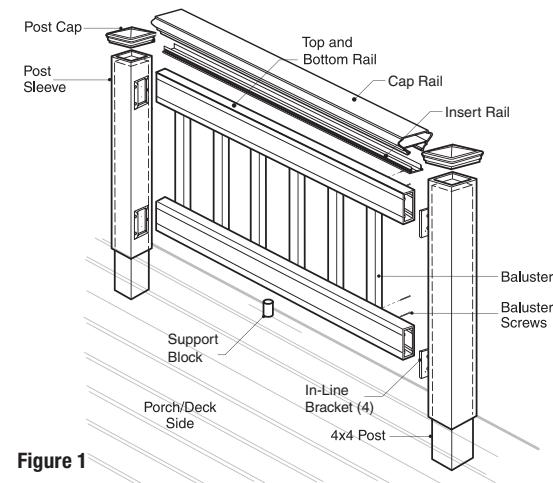
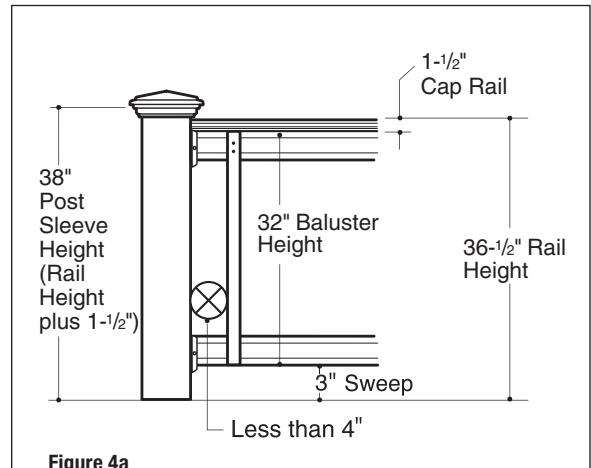

Figure 1
Figure 4a
**Step 5** Trim 4x4 post sleeves to length. Post sleeves should be a minimum of 1-1/2" longer than the overall railing height (**Figure 4a and 4b**). Allow an additional 1-1/2" in your calculation if installing the optional cap rail. Example: For a 36" high railing, trim post sleeve to a minimum of 37-1/2" (39" with cap rail). Post sleeve can be left longer if desired.
**Step 6** Measure the distance between installed post sleeves to determine the length of the top and bottom rails (**Figure 1**). The distance between the post and first baluster should be less than 4" and equal on both ends (**Figure 4a and 4b**). Remove an additional 1/4" on both ends (1/2" overall) for the bracket to fit between the rail and post. Trim the top and bottom rails to length.
**Step 8** Position the bottom rail between posts and center. **Check building code requirements for maximum spacing between deck surface and bottom of rail (sweep).** Spacing of 3" is recommended, but can be more or less if codes allow (**Figure 4a and 4b**). Mark the location of the bracket on both posts. Remove rail. Mark the screw locations and pre-drill through the post sleeve only, using a 1/4" drill bit. Attach each bracket to the post with two 2" long screws.
**Step 9** A support block is needed at the center of each rail. Cut the support block to the proper height. Attach to the bottom of the lower rail (**refer to Figure 1**). Find the center of the rail and pre-drill using a 1/8" drill bit. Attach the support block connector using the included screw. Mark the location of the support block on the deck surface and attach the other support block connector to the deck using the included screw. Install the bottom rail between the posts. Using the brackets as a guide, pre-drill each screw hole using a 1/8" drill bit and attach each end to brackets using two 1" long screws. Tip: Use a driver extension bit to avoid marring the rail or post sleeve with the drill chuck.
**Step 10** Figure 4a and 4b illustrate how a 36" high railing might be sized. If you want to have your railing at a different height, use Figure 4a and 4b as planning tools to determine the height to cut the post sleeves and support blocks. Note: Use a fixture to ensure a consistent length (+/- 1/16").